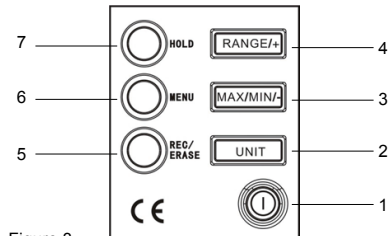

Figure 3
3. Keys description (Figure 3)